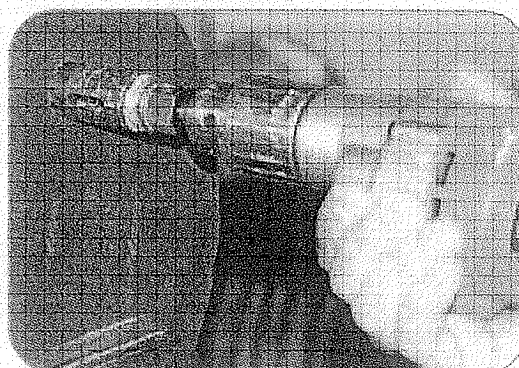

Figure 4 - Remove Material
- a. Use a hole saw or a step drill bit for smaller connections 3" or less as shown in Figure 4.